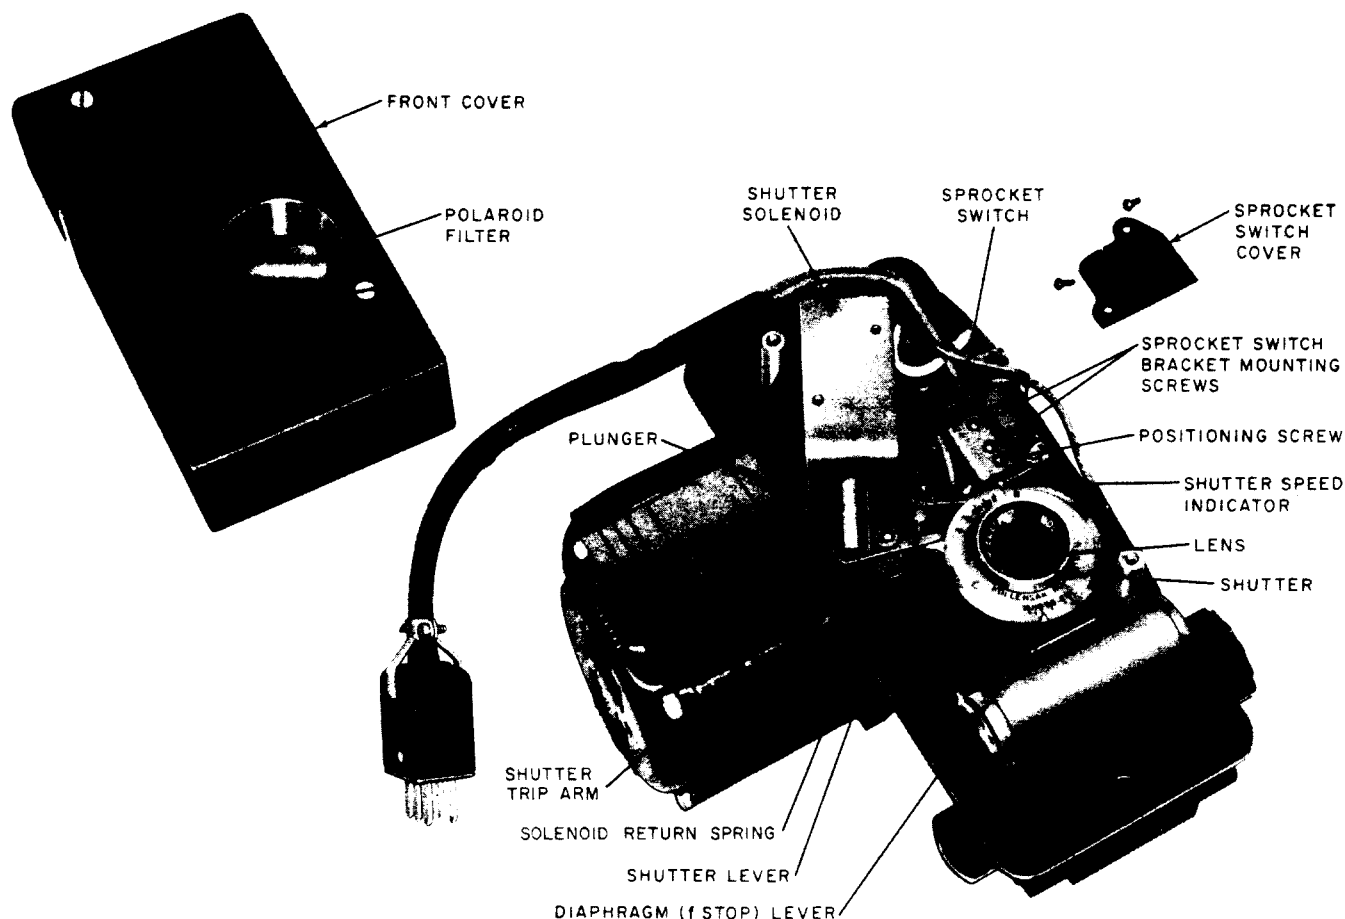

Fig. 8—KS-16007 Camera—Front Cover and Sprocket Switch Cover Removed
2.10 Operation of KS-19438 L2 Shutter Linkage: Fig. 8